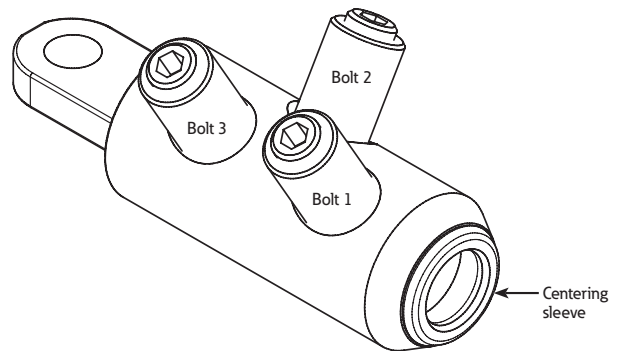

Figure 8. Mechanical lug tightening sequence
- With the appropriate Allen hex key (per Table 2), screw in bolt No. 1 until it breaks off smoothly. Proceed with bolt No. 2 in a similar way. If the lug has more than two (2) bolts, continue with No. 3 (See Figure 8 for tightening sequence).